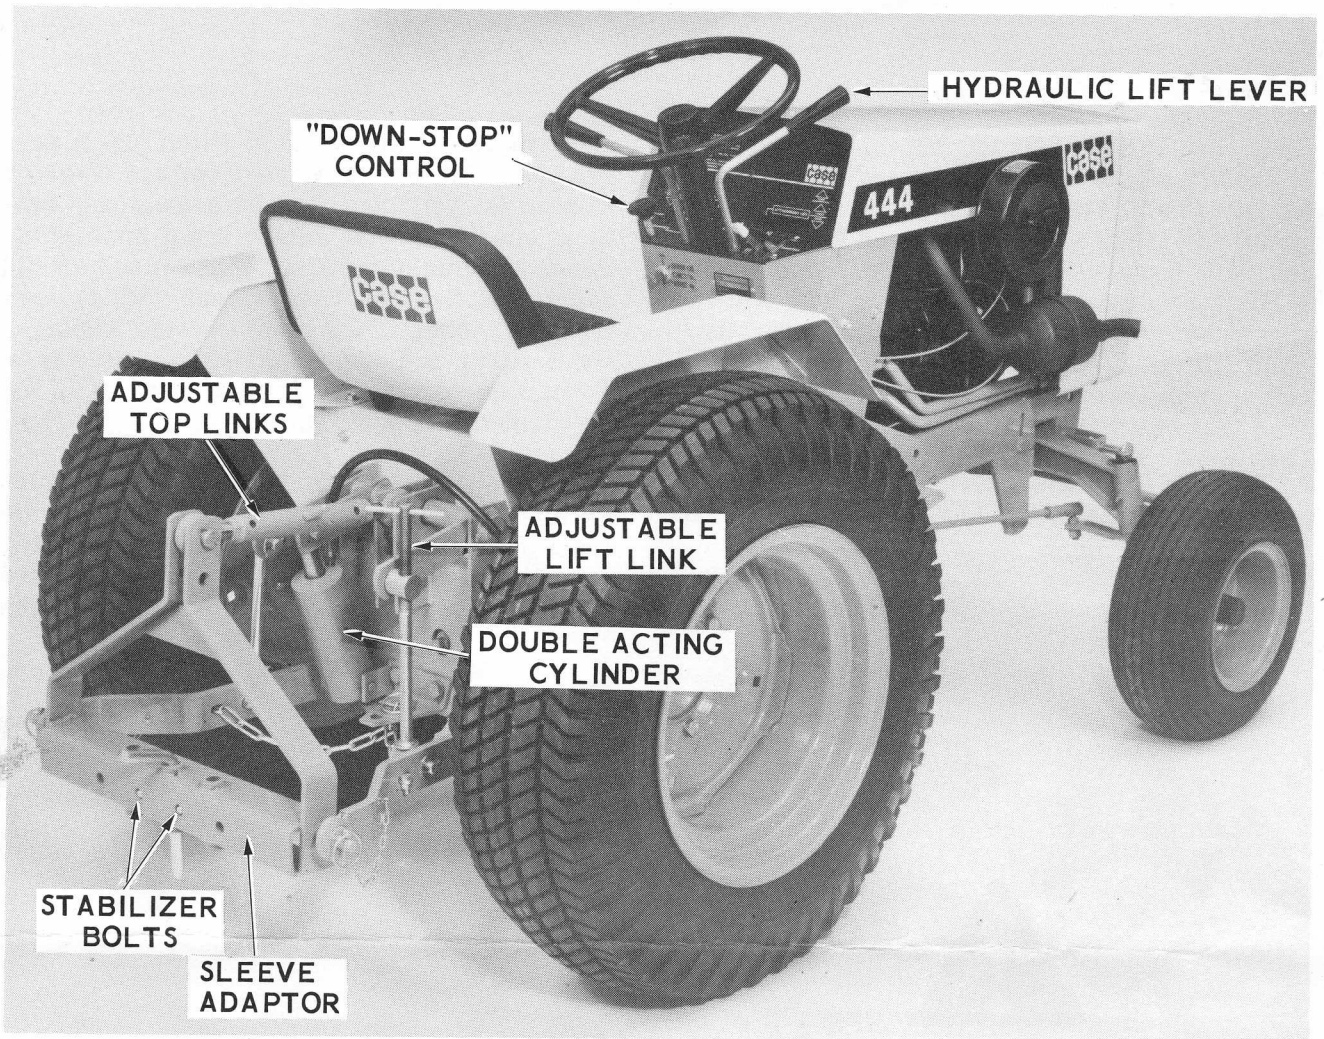
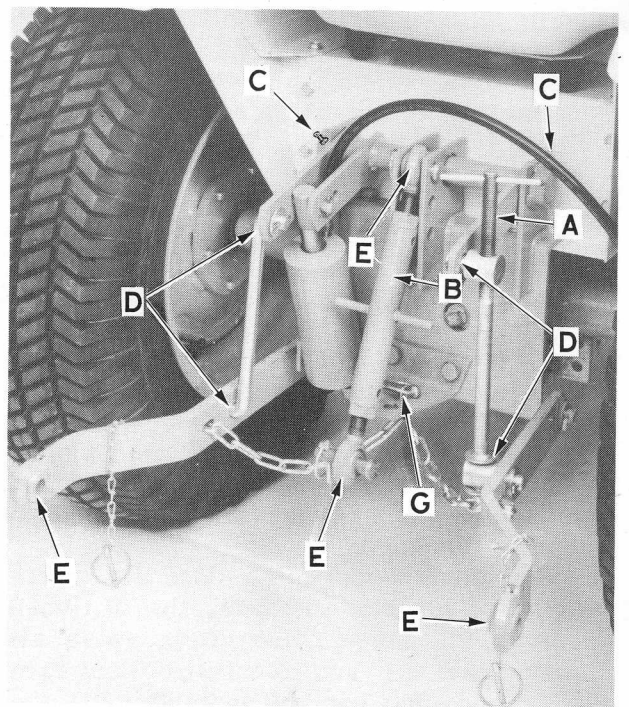

Figure 1. Identification of Principle Components and Controls
Figure 2. Model H26 3-Point Hitch Assembly
The Model H26 3-Point Hitch, Figure 2, is specifically designed for mounting on Case Model 442 and 444 Compact Tractors, serial number 9646800 and above, which are equipped with Hydraulic Lift. Use the Model F26 3-Point Hitch for Model 442 and 444 tractors prior to this serial number. The 3-Point Hitch is operated by the Hydraulic Lift control lever, Figure 1.
The hitch is raised and lowered with the tractor hydraulic lift lever. See Figure 1. Pull back on the lift control lever to raise the hitch. To lower the hitch or apply "down-pressure" push the lever
5. The 3-Point Hitch right hand lift link, "A", Figure 2, is adjustable to side level a mounted attachment.